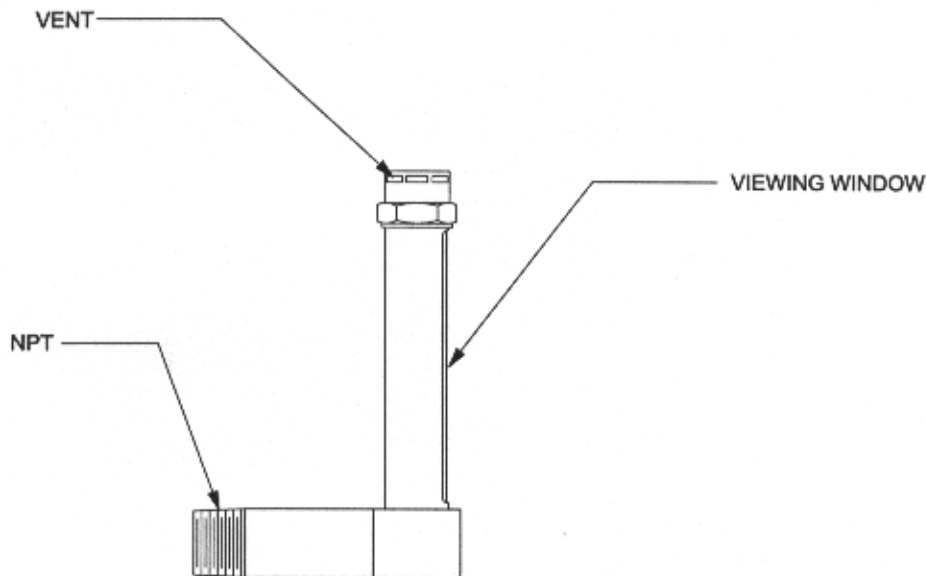

Figure 8. Oil Level Gauge
Pumps with oil lube option are shipped with no oil in bearing housing. Adequate lubrication with ISO Grade 68 oil is essential at all times. Refer to Table 13 for specific recommended oil types. To drain old oil from bearing housings, remove pipe plugs (426) at the bottom of oil caps (41A) and (41B). Add oil to bearing housing (99) through breather vent (405) until oil is at the center of the bullseye sight (143). Use bullseye sight (143) to check oil level in bearing housing (99). Add mark for proper level on oil level gauge (144) for easy visual reference. (Refer to oil level gauge drawing, Figure 8.)